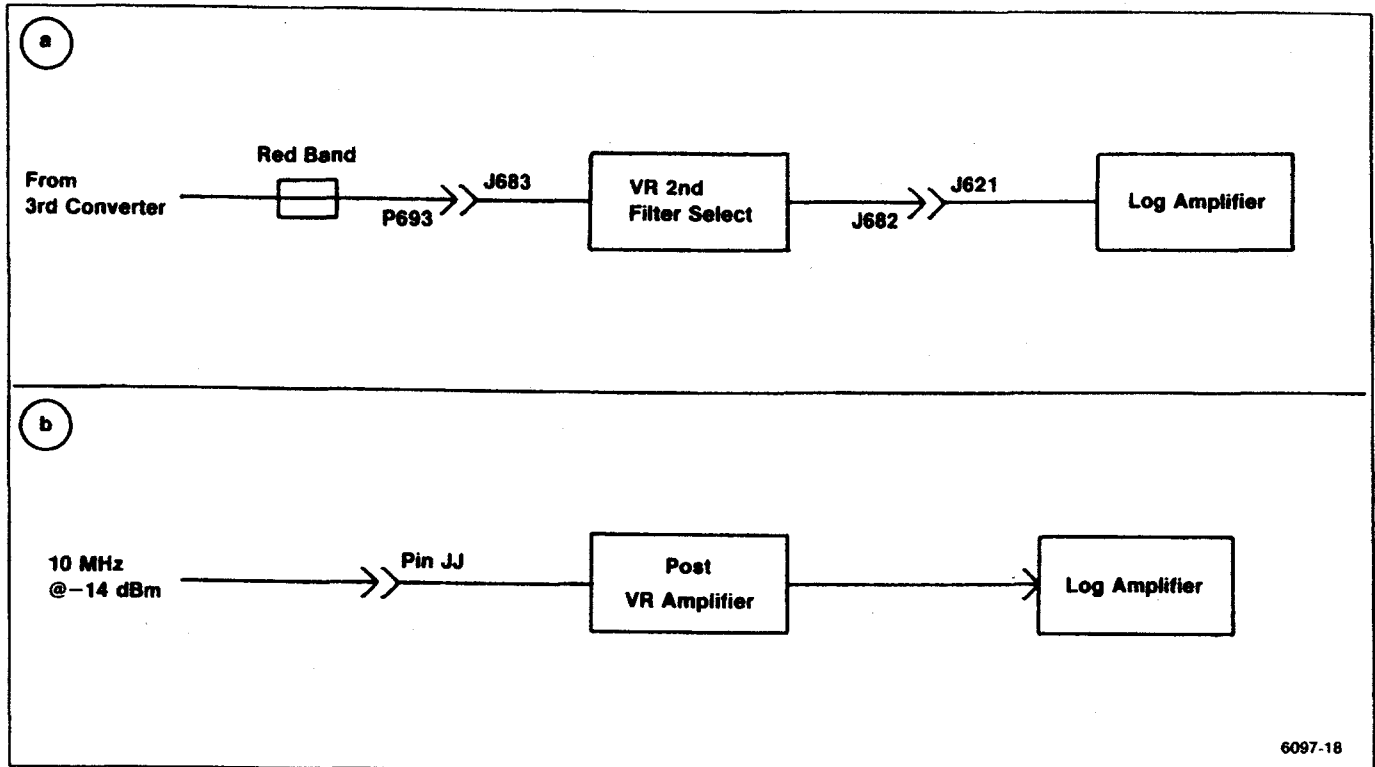

Figure 5-14. Test equipment setup for adjusting the Variable Resolution module.
a. Equipment setup is shown in Figure 5-14.
(1) Remove and install the Variable Resolution module on an extender.
(2) Use a Sealectro male-to-male adapter and coaxial cable to connect the 10 MHz IF output signal, from the 3rd Converter, to the input of the second section (make connection from plug removed from J693 to J683).